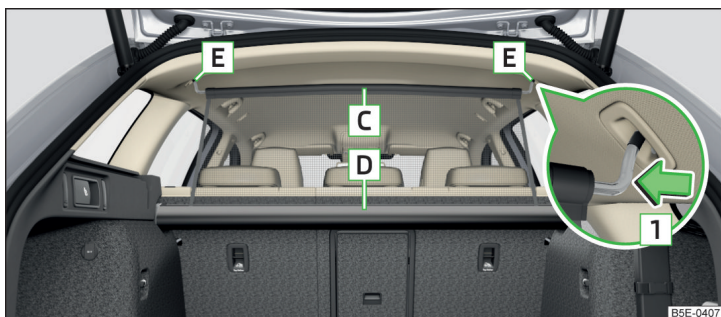

Fig. 123 Net partition behind the front seats in the pulled-out state
- Pull out the net partition at the upper crossbar **C** from the housing **D** » Fig. 123.
- Press on the crossbar and remove it from the receptacles **E**, first on one side, then on the other side » Fig. 123.